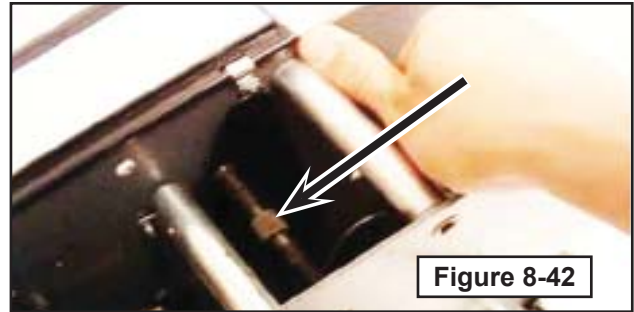

Figure 8-42
8. Remove-inspect-and/or install new tape basket (Figure 8-42).
5. With tape guides positioned towards middle of dispenser and one hand spreading chassis apart, pull turnbuckle to one side of dispenser, twist turnbuckle slightly and pull assembly out rear of dispenser (Figures 8-42 and 8-43).